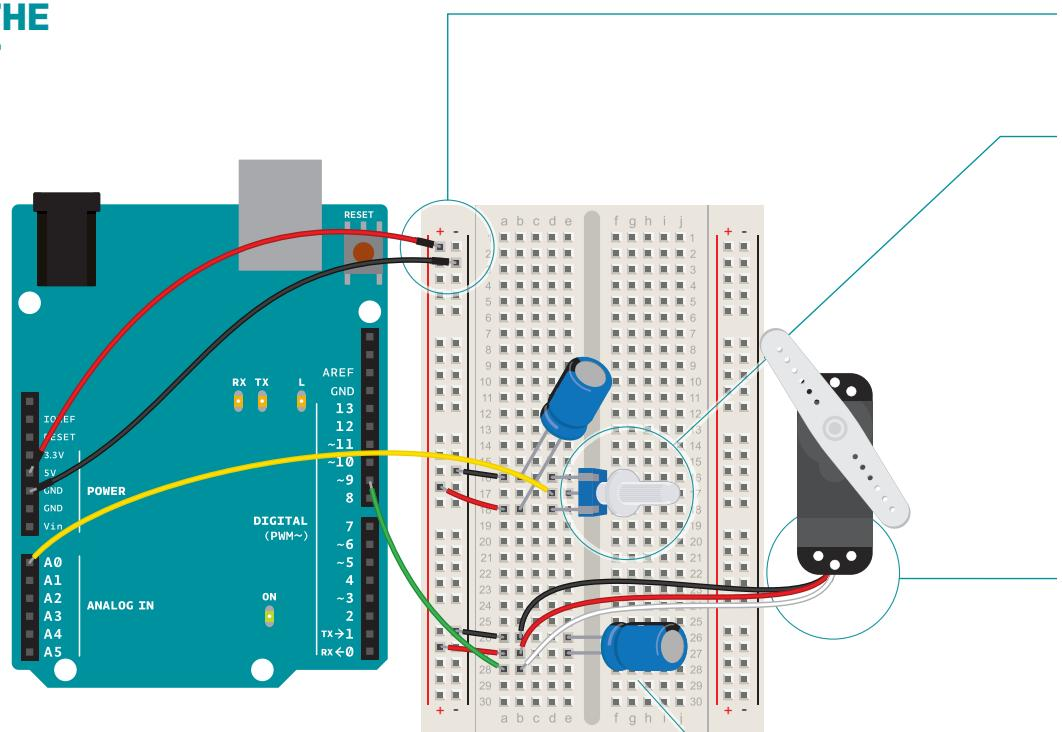

Fig. 1
- 4 When a servo motor starts to move, it draws more current than if it were already in motion. This will cause a dip in the voltage on your board. By placing a 100uf capacitor across power and ground right next to the male headers as shown in Fig. 1, you can smooth out any voltage changes that may occur. You can also place a capacitor across the power and ground going into your potentiometer. These are called ***decoupling capacitors*** because they reduce, or decouple, changes caused by the components from the rest of the circuit. Be very careful to make sure you are connecting the cathode to ground (that's the side with a black stripe down the side) and the anode to power. If you put the capacitors in backwards, they can explode.